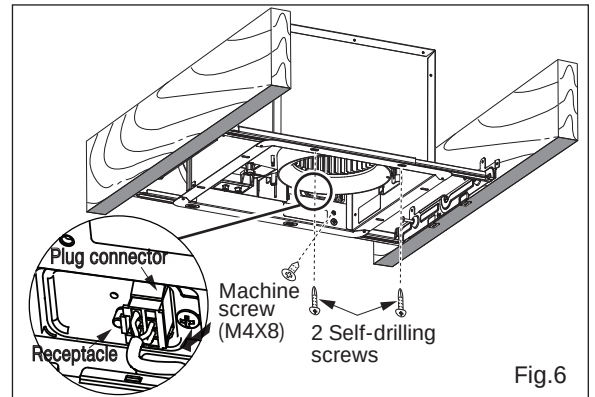

Fig.6
8. Insert fan body and slide into adaptor assy with some strength, untill the flange overlaps the Flex-ZFast™ bracket. Secure the fan body to Flex-ZFast™ bracket by using 2 self-drilling screws, plug connector to receptacle and secure the fan body to adaptor by using machine screw (M4X8). (Fig.6)